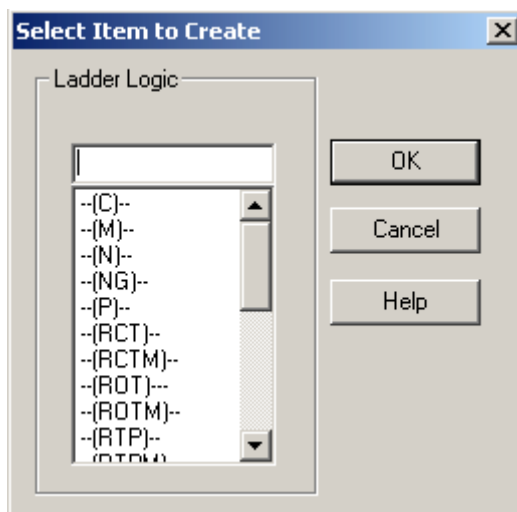

Figure 6-14 Select Item to Create
2. Click the **New Ladder Logic Element** button on the **Line Connection** toolbar.  The Select Item to Create dialog opens. See Figure 6-14.